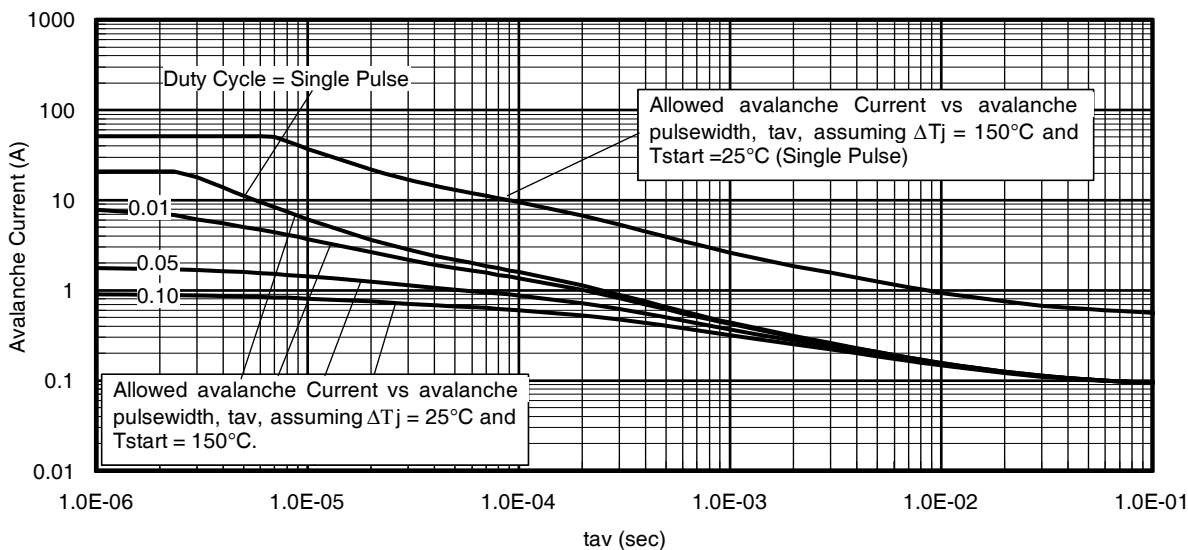

Fig 16. Typical Avalanche Current vs. Pulsewidth
Notes on Repetitive Avalanche Curves , Figures 16, 17: (For further info, see AN-1005 at www.irf.com)
7. ΔT = Allowable rise in junction temperature, not to exceed T_{jmax} (assumed as 25°C in Figure 16, 17).